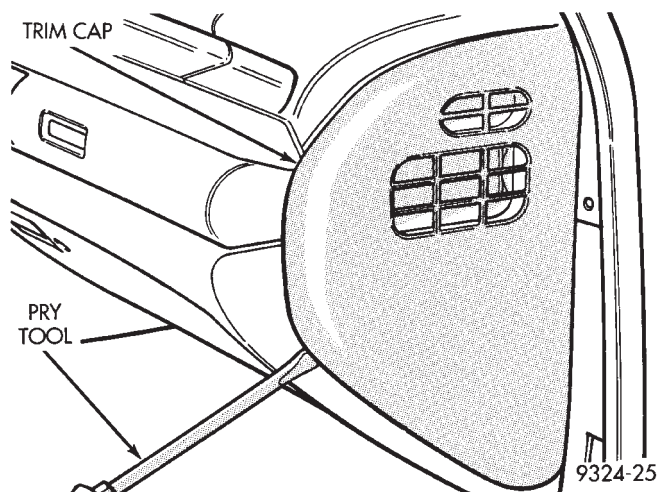

Fig. 53 Right Side Bezel Removal
(7) Remove the three retaining nuts from the studs. These studs project through the dash panel into the engine compartment.
(8) Remove right and left instrument panel end caps. These caps are held in place by a series of clips.
(9) Remove right and left interior door post kick panel.
(10) Remove right side bezel from instrument panel (Fig. 53).